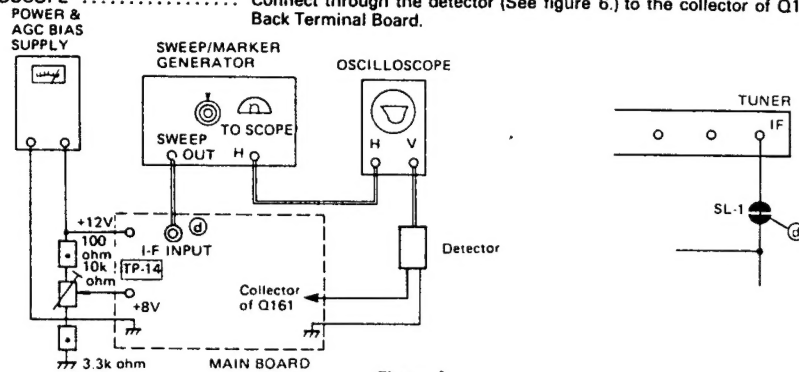

Figure 4.
**GENERAL** ..... Refer to Figure 4 for the equipment connection.
1. Disconnect the solder link SL-1 (see Figure 4) on the foil side of the Back Terminal Board.
**SWEEP/MARKER GENERATOR** ..... Connect to the point (d) as shown in Figure 4 on the Back Terminal Board.